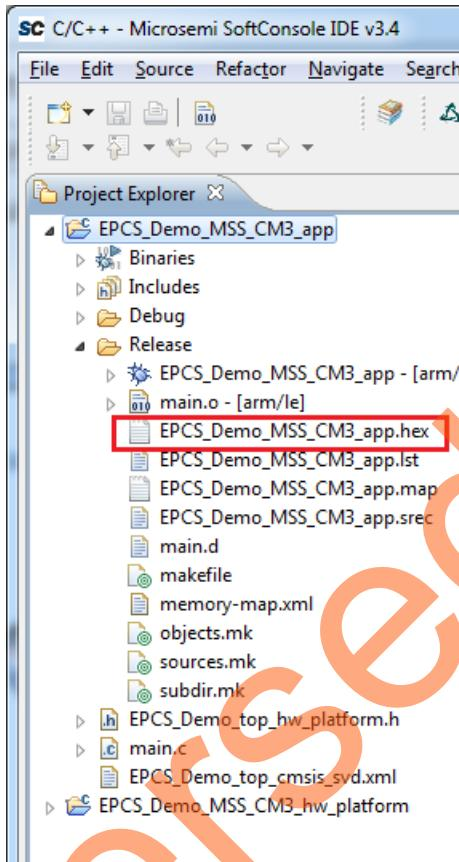

Figure 59 • Generated Hex File
12. SoftConsole creates a hex file in the **Release** folder under the **EPCS\_Demo\_MSS\_CM3\_app** project as shown in Figure 59.